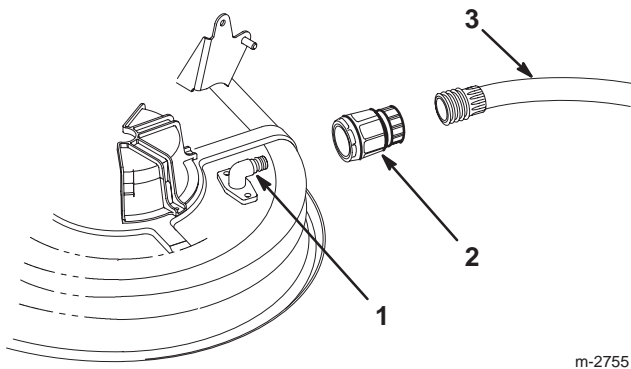

Figure 51
5. Screw the coupling to the end of a garden hose, attach the coupling to the mower washout fitting, and turn the water on high (Fig. 51).